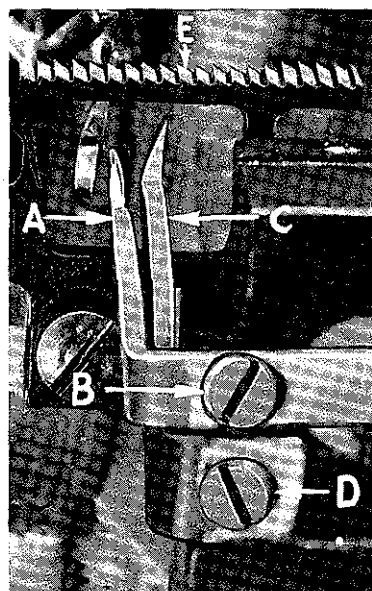

Fig. 4
Now assemble main (front) feed dog (E, Fig. 4)
Set rear needle guard (A, Fig. 4) as high as possible, without interfering with either lower loop or movement of lower knife holder; but still in position to deflect needle forward .002 - .004 inch. Screw (B) is used to set rear needle guard.
Assemble front needle guard (C, Fig. 4). When lower looper is springing needle off back guard, set front needle guard as close as possible to needle without touching. Screw (D) is used to adjust and set front needle guard. After this setting, make sure there is no interference between needle guards and main feed dog.